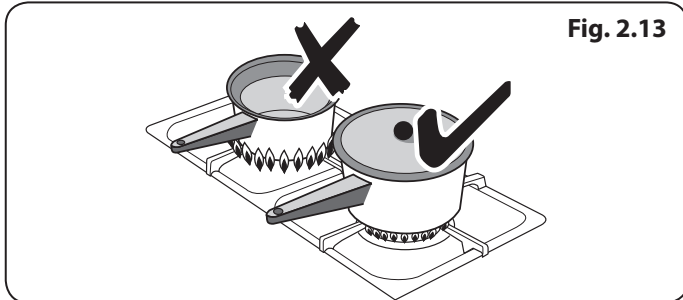

Fig. 2.13
3. Make sure that the flames are under the pans (Fig. 2.13). Using a lid will help the contents boil more quickly.